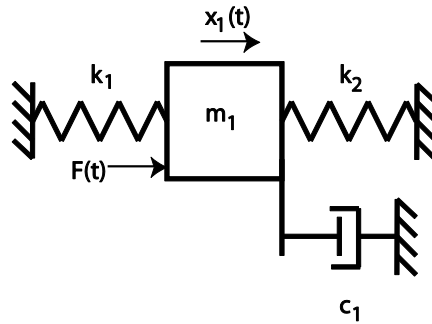

Figure 1: 1 DOF Mechanical Rectilinear System
- Draw a free body diagram of the forces on the mass for the system shown in Figure 1.
A one degree of freedom rectilinear mass-spring-damper system can be modeled as shown in Figure 1.